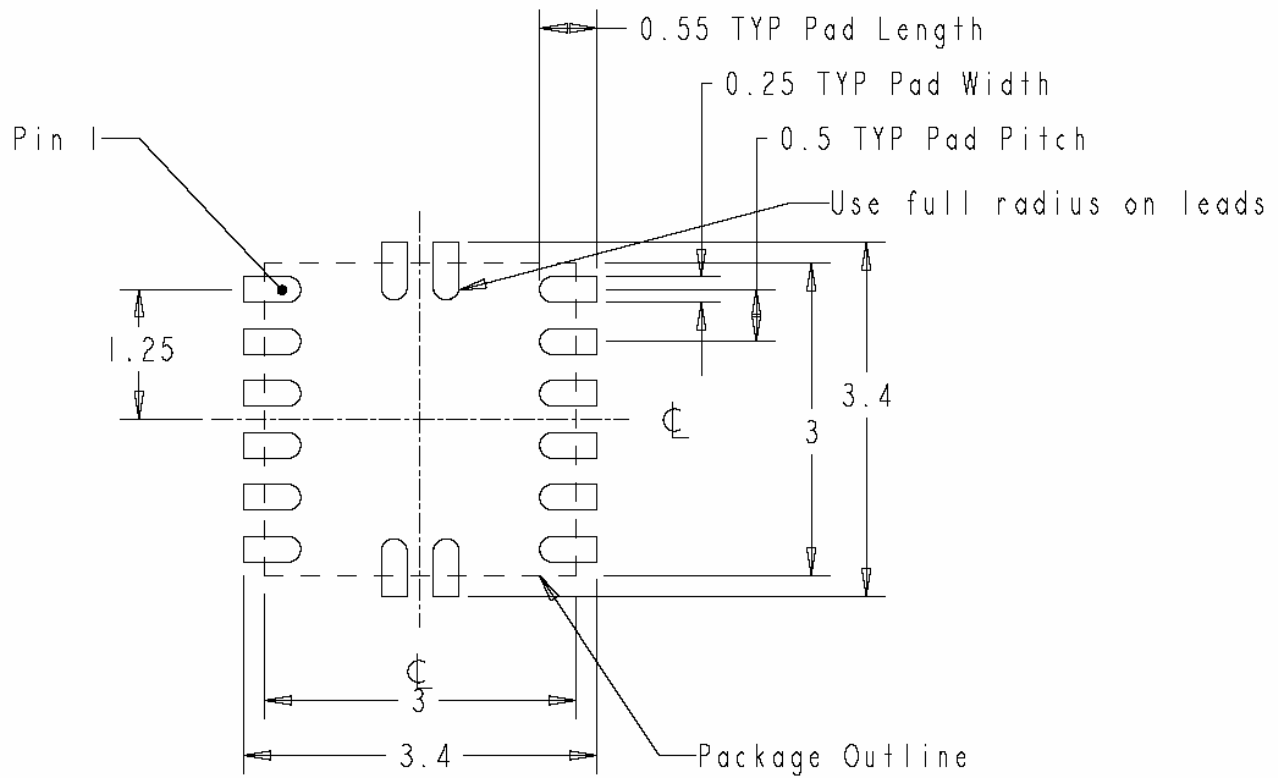

**Figure 10.** Top PCB Layer Critical Components and Copper for Minimum Footprint
Figure 10 shows critical components and layer 1 traces of a recommended minimum footprint EP53A8LQ/EP53A8HQI layout with ENABLE tied to  $V_{IN}$ . Alternate ENABLE configurations, and other small signal pins need to be connected and routed according to specific customer application. Please see the Gerber files on the Altera website [www.altera.com/enpirion](http://www.altera.com/enpirion) for exact dimensions and other layers. Please refer to Figure 10 while reading the layout recommendations in this section.
**Recommendation 2:** Input and output grounds are separated until they connect at the PGND pins. The separation shown on Figure 10 between the input and output GND circuits helps minimize noise coupling between the converter input and output switching loops.
**Recommendation 4:** Multiple small vias should be used to connect the ground traces under the device to the system ground plane on another layer for heat dissipation. The drill diameter of the vias should be 0.33mm, and the vias must have at least 1 oz. copper plating on the inside wall, making the finished hole size around 0.20-0.26mm. Do not use thermal reliefs or spokes to connect the vias to the ground plane. It is preferred to put these vias under the capacitors along the edge of the GND copper closest to the +V copper. Please see Figure 10. These vias connect the input/output filter capacitors to the GND plane and help reduce parasitic inductances in the input and output current loops. If the vias cannot be placed under  $C_{IN}$  and  $C_{OUT}$ , then put them just outside the capacitors along the GND. Do not use thermal reliefs or spokes to connect these vias to the ground plane.
**Recommendation 5:** AVIN is the power supply for the internal small-signal control circuits. It should be connected to the input voltage at a quiet point. In Figure 10 this connection is made with RAVIN at the input capacitor close to the  $V_{IN}$  connection.